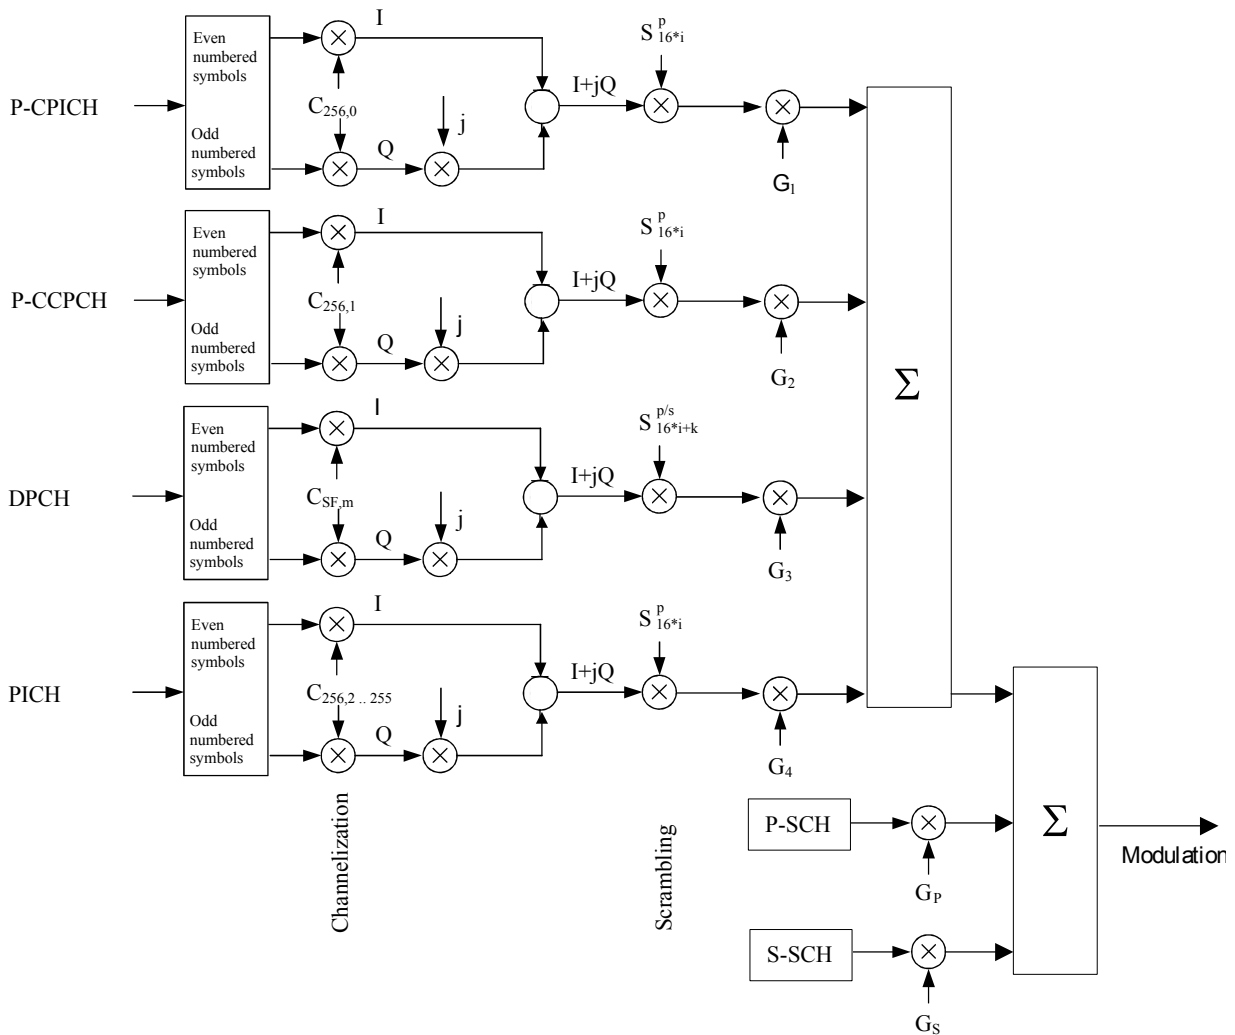

Fig. 4-57 Spreading of the downlink channels
The CMU uses the scheme defined in TS 25.213 to spread and combine the five channels (see Fig. 4-57 below). The real-valued P-CPICH, P-CCPCH, DPCH and PICH symbols are first mapped to an I and Q branch. The I and Q branches of each channel are spread to the chip rate using the same channelization code $C_{SF,m}$. The channelization codes of the P-CPICH and P-CCPCH are fixed. The spreading factor (SF) for the DPCH is given by its slot format number (see Table 4-16 on p. 4.144) and the selectable *DPCH Channelization Code* m . The complex-valued chip sequences are scrambled with primary or secondary scrambling codes S^p or S^s ; see paragraph on Downlink scrambling codes on p. 4.137, weighted with individual factors G and then combined using complex addition. The G factors are directly related to the individual channel levels set at the CMU.
The *SCH Level* softkey sets the level of the Primary Synchronization Channel (P-SCH) and the Secondary Synchronization Channel (S-SCH). The level is set relative the *Output Channel Power* or to the *P-CPICH Level abs.*, depending on the selected *Level Reference* (see p. 4.137). The two levels can be entered in two separate input fields. If it is defined relative to the *P-CPICH Level abs.*, the *P-SCH Level* is equal to the ratio of the weighting factors G_p/G_1 in Fig. 4-57 (see p. 4.130). The *S-SCH Level* is equal to the ratio of the weighting factors G_s/G_1 in Fig. 4-57.
The *P-CCPCH Level* softkey sets the level of the Primary Common Control Physical Channel (P-CCPCH). The level is set relative the *Output Channel Power* or to the *P-CPICH Level abs.*, depending on the selected *Level Reference* (see p. 4.137). If it is defined relative to the *P-CPICH Level abs.*, the *P-CCPCH Level* is equal to the ratio of the weighting factors G_2/G_1 in Fig. 4-57 (see p. 4.130).
The *PICH Level* softkey sets the level of the Page Indicator Channel (PICH). The level is set relative the *Output Channel Power* or to the *P-CPICH Level abs.*, depending on the selected *Level Reference* (see p. 4.137). If it is defined relative to the *P-CPICH Level abs.*, the *PICH Level* is equal to the ratio of the weighting factors G_4/G_1 in Fig. 4-57.
The *DPDCH Level* softkey sets the level of the data part (DPDCH) of the Dedicated Physical Channel (DPCH). The level is set relative the *Output Channel Power* or to the *P-CPICH Level abs.*, depending on the selected *Level Reference* (see p. 4.137). The level of the control part can be set to be different from the *DPDCH Level*; see *Power Offset* parameter on p. 4.139. For a 0-dB power offset and if it is defined relative to the *P-CPICH Level abs.*, the *DPDCH Level* is equal to the ratio of the weighting factors G_3/G_1 in Fig. 4-57 (see p. 4.130). The DPCH (including the DPCCH part) can be switched off by means of the *ON/OFF* key.